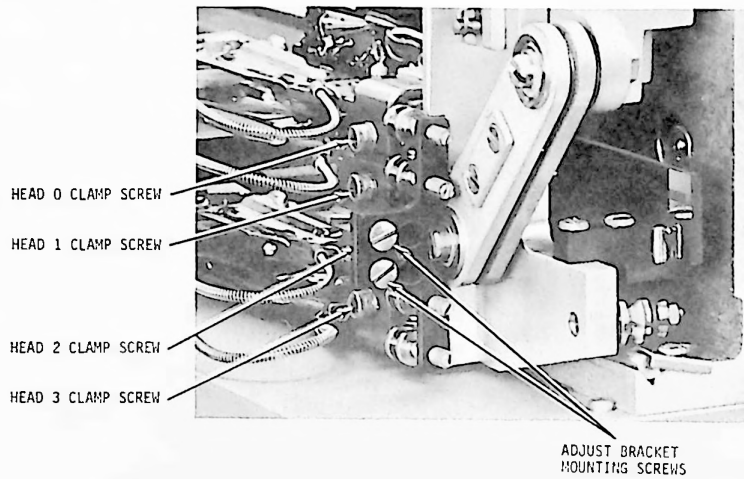

Figure 3-23. Mounting Screws for Head Clamps and Adjusting Bracket
9. Remove two screws securing the head adjusting bracket and remove the bracket (figure 3-23)
10. Remove the appropriate head clamping screw (hd 0 or hd 1) holding the head clamp. Remove clamp from head-arm assembly (figure 3-23).
9. Remove two screws securing the head adjusting bracket and remove the bracket (figure 3-23).
10. Remove the appropriate head clamping screw (hd 2 of hd 3) holding the head clamp. Remove clamp from head-arm assembly (figure 3-23).